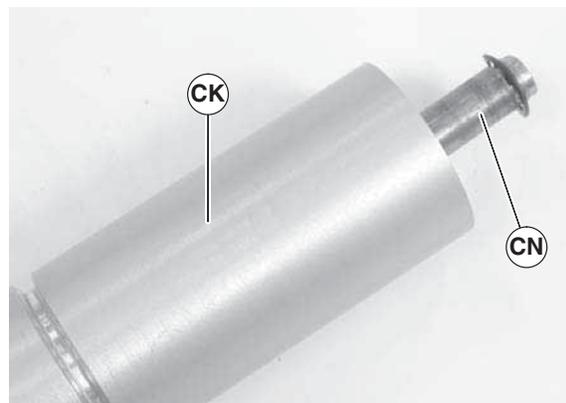

Figure 64
6. Slide the shaft assembly (Figure 64, item CN) out of the pulley (CK).
6. Slide the shaft assembly (Figure 64, item CN) out of the pulley (CW).